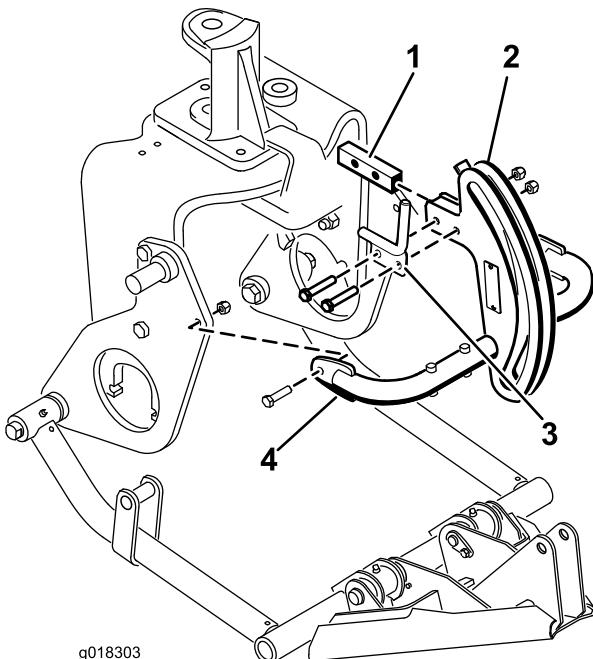

Figure 9
6. Mount the top of the hitch frame and the hose guide to the hitch frame bracket with 2 bolts (3/8 x 2 inches) and nuts (Figure 9).
7. Mount the hitch frame tubes to the plow plates with bolts (3/8 x 1-1/2 inches) and nuts (Figure 9). Tighten the fasteners.